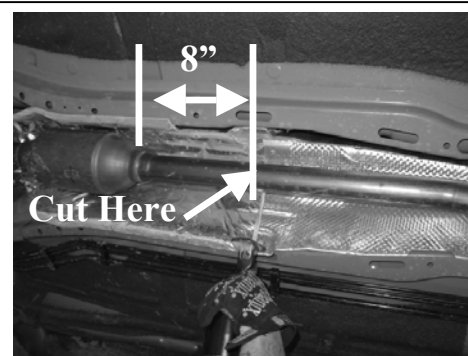

FIGURE 1
1. Using the saws-all or hack saw, cut the single exhaust pipe off 8" behind the second catalyst. (Figure 1). Clean off and deburr the cut edge.